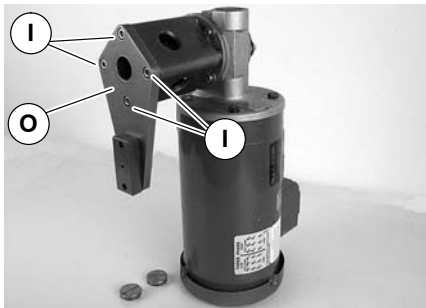

Figure 17
4. Remove four (4) screws (I of Figure 17) and remove mounting bracket & tube (O).
14. Attach mounting bracket & tube (O of Figure 17) to gearmotor. Tighten screws (I) to 103 in-lb (12 N-m).